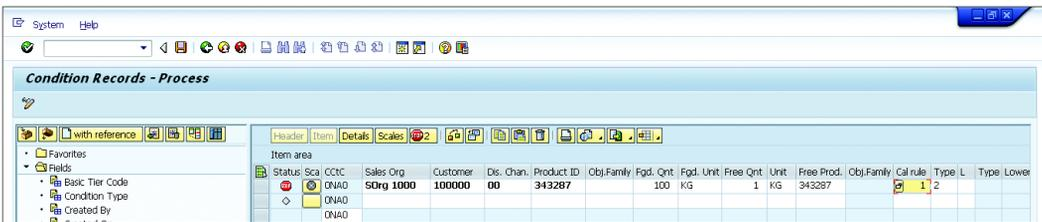

Figure 4.152 Condition Record Maintenance
7. Maintain the conditions for every 100KG of the product ordered so the customer gets 1KG free of charge (see Figure 4.152).